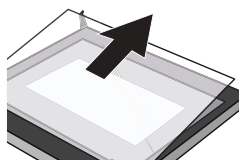

Figure 5
5.) Push the glass into the position indicated by the arrow in **Figure 5**. Gently pull the glass out of the socket.